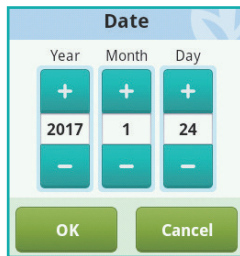

Figure 14
a) Choose the Date setting to open a dialog box (Figure 14) that can be used to input the correct date. Use the “+” and “-” buttons to select the date, choose OK to save and exit or Cancel to exit without saving.